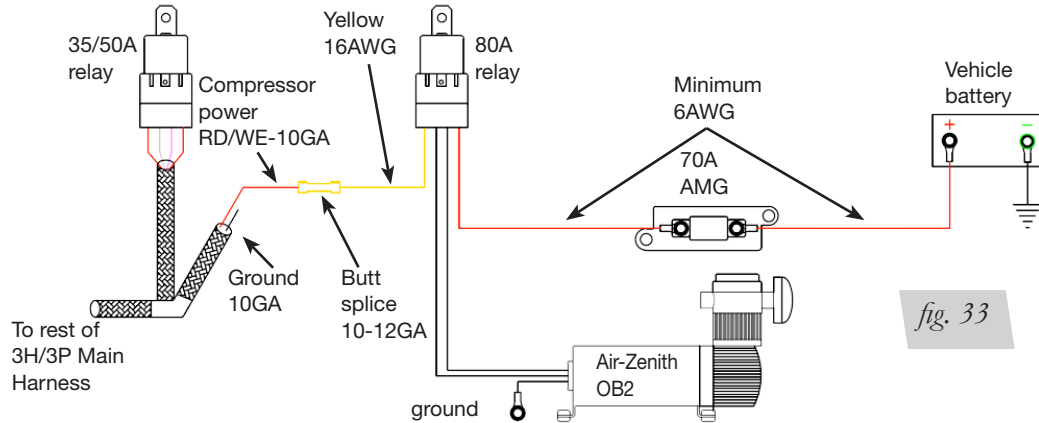

fig. 33
NOTE: If using an Air-Zenith compressor see figure 33 on page 22.
2. If using an Air-Zenith OB2 compressor, follow the wiring diagram below (fig. 33). The 70A fuse, relay, etc. are supplied with compressor. Wiring requirements for the compressor should follow manufacturer's recommendation.